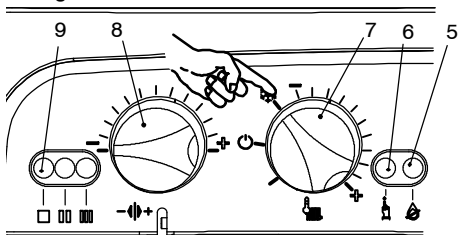

Fig. 7.10
- 2 Set the function knob 7 as illustrated in Fig. 7.10.